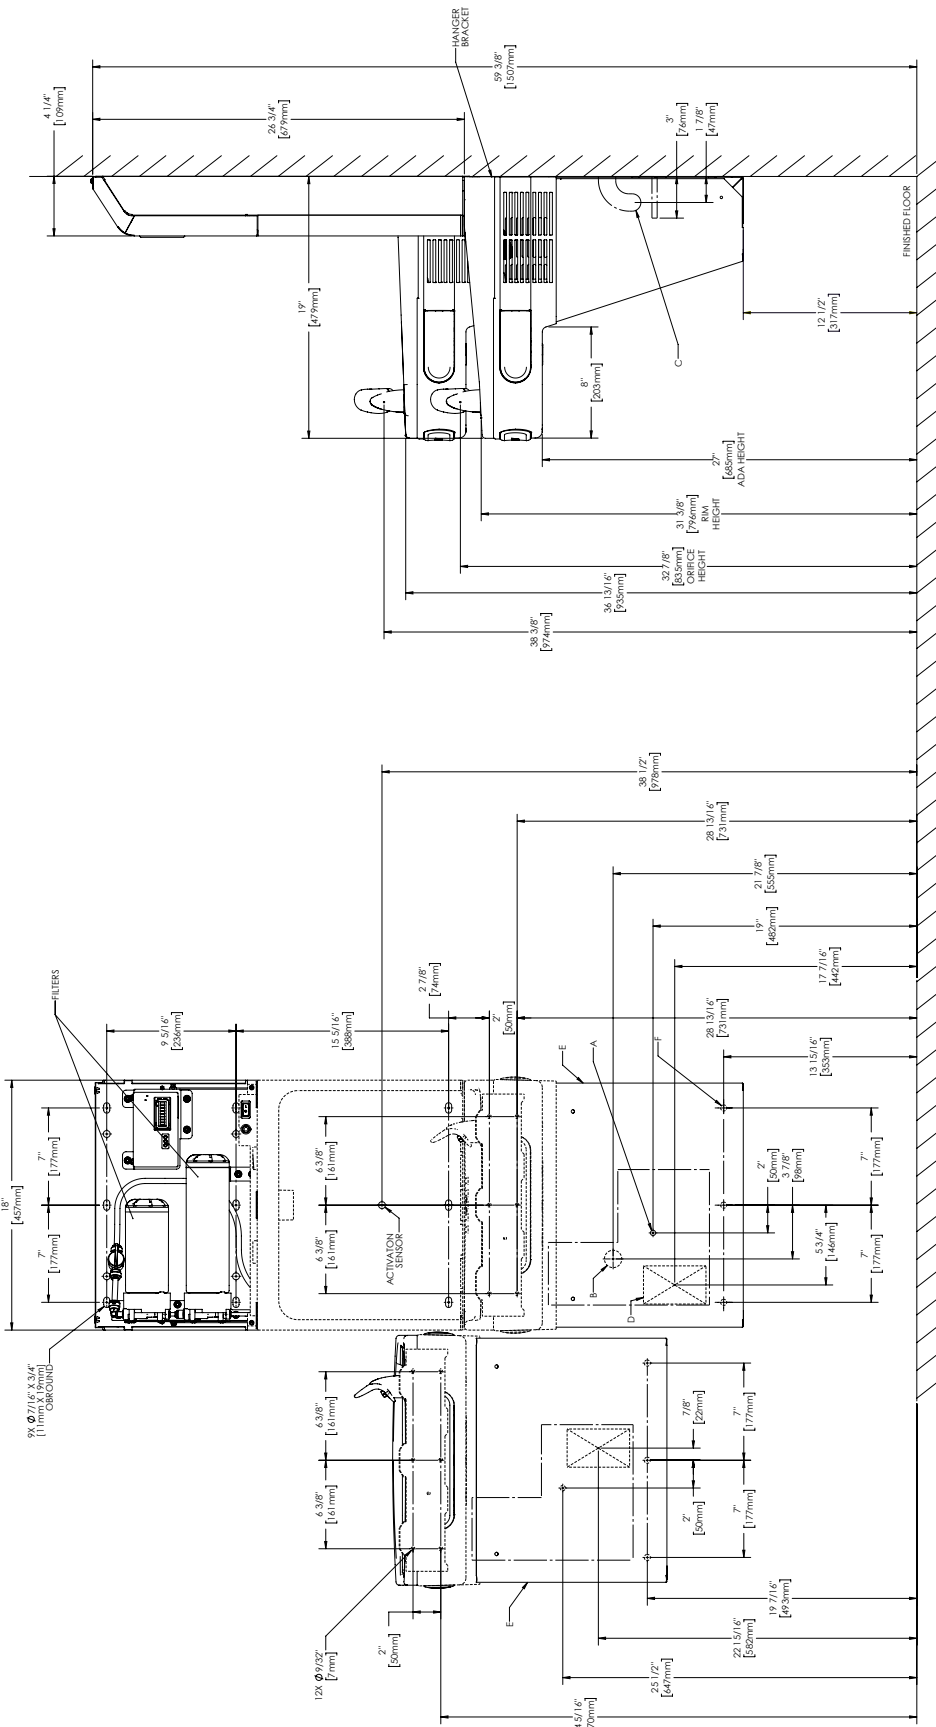

Fig. 1
3. Mount the hanger bracket as shown in Figures 1 (Pg. 7).
1. Hang the cooler on the hanger bracket. Be certain hanger bracket is engaged properly in the slots on the cooler back as shown in Figure 1 (Pg. 7).
3. Hang only the refrigerated cooler on the hanger bracket. Be certain hanger bracket is properly in the slots on the cooler backs as shown in Figures 1 (Pg. 7).
4. Hang the non-refrigerated cooler on the hanger bracket. Be certain hanger bracket is engaged properly in the slots on the cooler backs as shown in Figures 1 (Pg. 7).
6. Secure each cooler frame to wall by installing (2) screws and washers (not supplied) in lower holes. See reference figures in page 14.